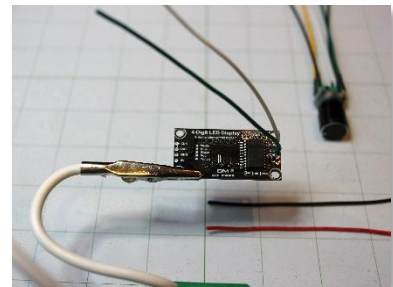

Figure 3
Next, we'll pre-wire the TM1637 LED display. So cut (4) more 4-inch 22 AWG wires, 1 black for ground, 1 red for 5V, 1 white for CLK and 1 green for DIO. Here, make sure you solder the wires, so they are coming out of the back right side of the TM1637 as illustrated in figure 3. When we later install the LED display in the project case, the four wires will be located towards the middle of the case.